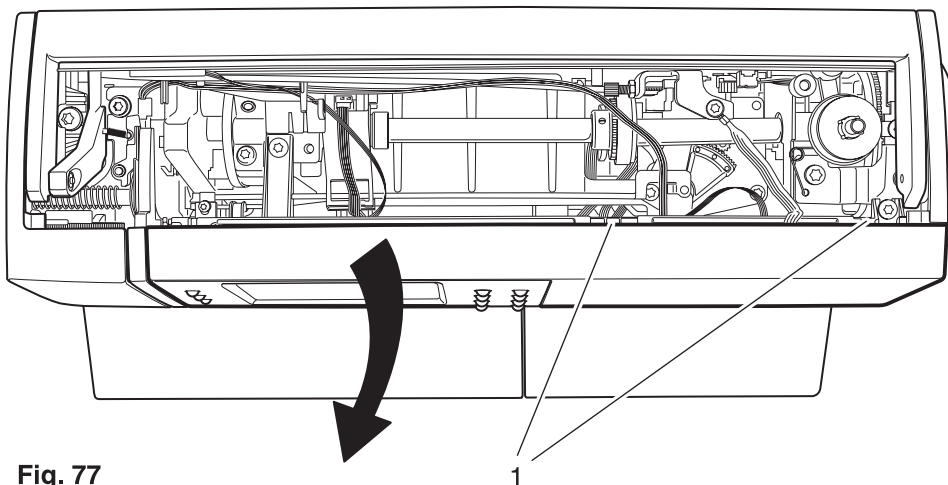

Fig. 77
- Raise both lugs 1 slightly and remove the facing panel in the direction of the arrow (fig. 77).
- Mount the facing panel onto the front housing panel and make sure that both lugs 1 lock fully into place (fig. 77).